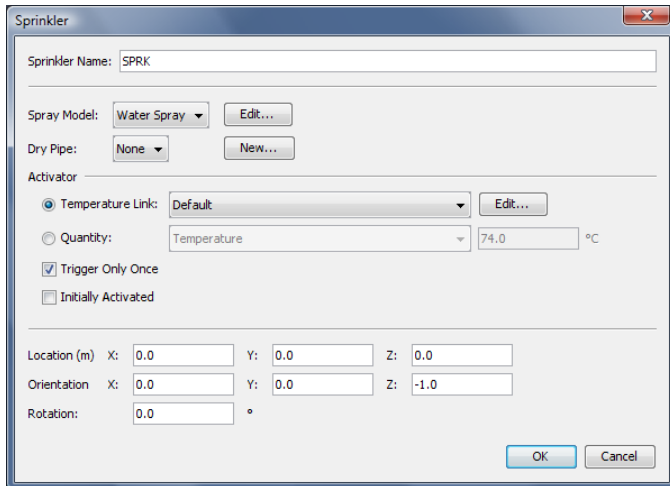

Figure 13.2. Creating a new sprinkler
1. On the **Devices** menu, click **New Sprinkler...** This will display the **Sprinkler** dialog, Figure 13.2.